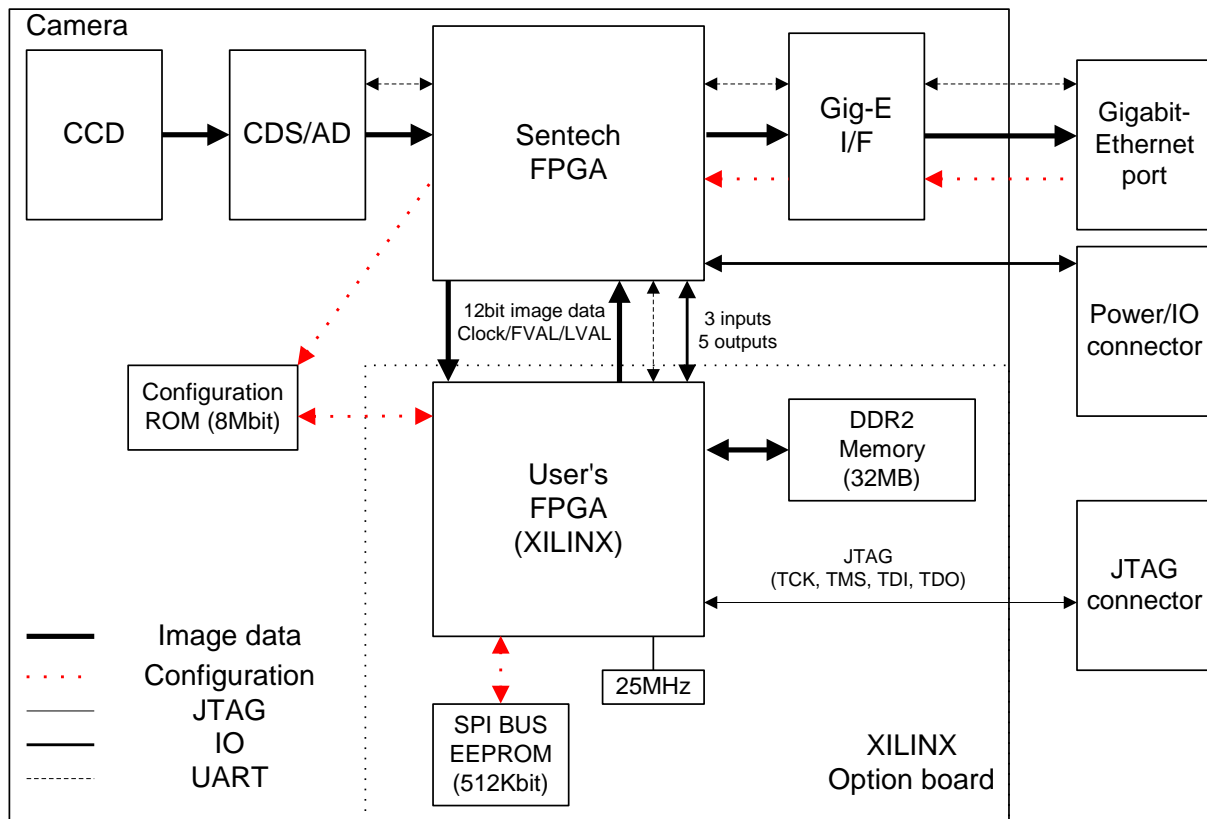

Fig. 5: Block diagram
- 2) The diagram below (Fig. 5) shows the basic image data diagram.